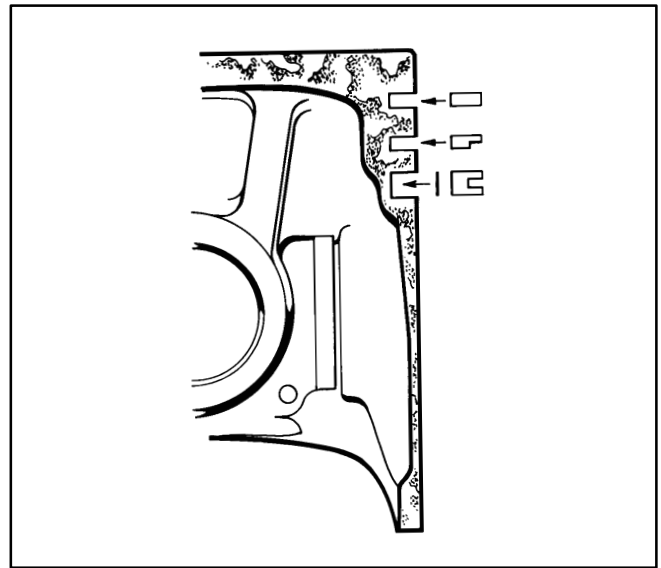

FIGURE 7-19. PISTON RINGS
3. Refer to Figure 7-19. Use a piston ring spreader to install the piston rings to prevent twisting or excessive expansion. Follow the instructions in the ring kit exactly. Note which ring goes in which groove and which side of the ring is "up". Also note that the oil control ring is an assembly.